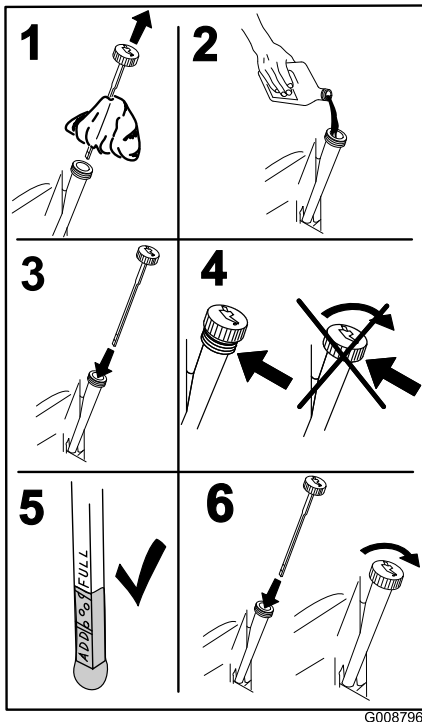

Figure 39
4. Slowly pour approximately 80% of the specified oil into the filler tube and slowly add the additional oil to bring it to the **Full** mark (Figure 39).